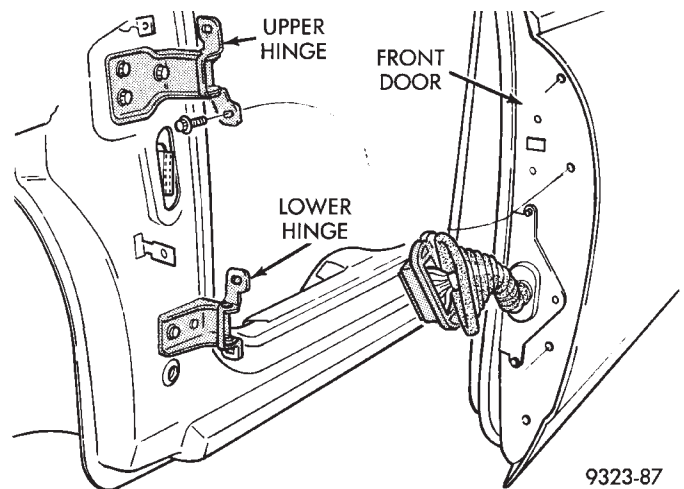

Fig. 23 Front Door and Hinge
- (1) Open front door.
- (2) Disengage clips holding wire harness connector and boot to hinge pillar.
- (3) Separate connector from hinge pillar.
- (4) Disengage clip holding wire connector together on hinge pillar side of the connector.
- (5) Separate door harness from instrument panel harness.
- (6) Support door on suitable lifting device.
- (7) Remove bolts holding lower hinge to door end frame (Fig. 23).
- (8) Steady door on lifting device and remove bolts holding upper hinge to door end frame.
- (9) Disengage door check stop from pin on upper door hinge.
- (10) Separate door from vehicle.